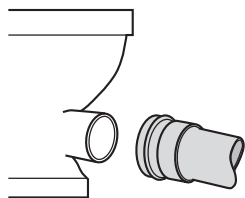

Fig.34b Offering up connector
**Step 3** – Offer up 102 90° WC Turned Connector or 125 WC Straight Connector to WC spigot (Fig.34b)